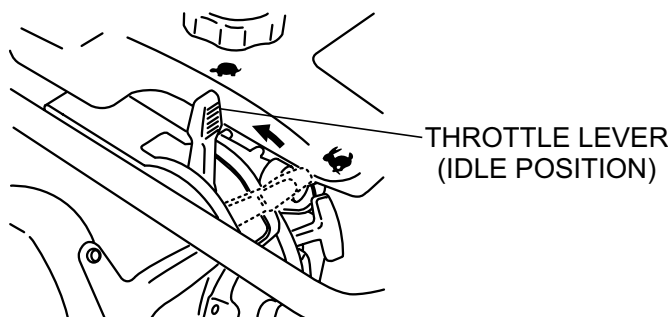
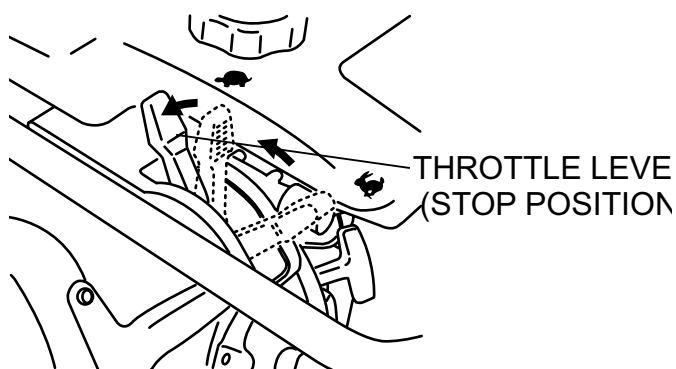

Figure 6. Throttle Lever (Idle Position)
Figure 11. Throttle Lever (Stop Position)
1. Slide the throttle lever from the stop to the idle position (🚗) (Figure 6). This opens the fuel cock and the engine electrical circuit is turned on automatically.
3. To stop the tamping action, move throttle lever quickly from **START** to **IDLE** position (Figure 6).
1. Move throttle lever quickly from the **START** to **IDLE** position (Figure 6) and run the engine for three minutes at low speed. After the engine **cools**, move the throttle lever to the **STOP** position (Figure 11). The engine will stop and the fuel cock is automatically closed.